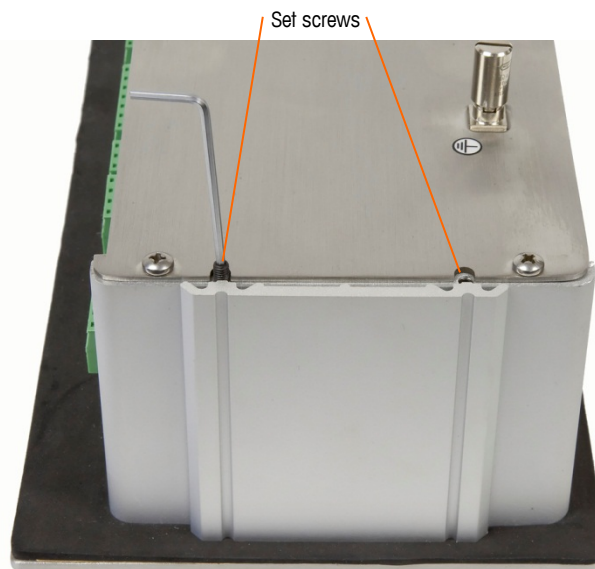

Figure 3-8: Clamping Bracket Installed
7. Secure the terminal to the panel by inserting the clamping brackets into the channels on the side of the IND560x enclosure and installing the four Allen-head screws as shown in Figure 3-8. All four set screws should be tightened to 0.55 Nm (5 in-lbs).